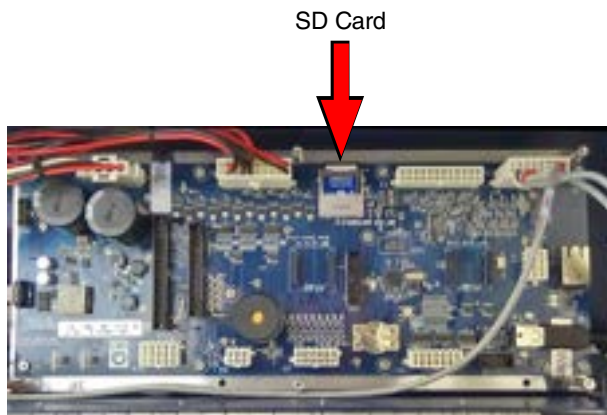

Figure 11.1: SD card location on Main Controller circuit board.
11.1. Secure Digital (SD) Card (Dec 2022)
- The SD card is located on the Main Controller (Section 8.1) circuit board (Figure 11.1).